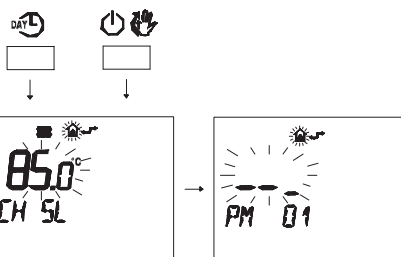

Fig. 8.19
- Press buttons **DAY** and **POWER** at the same time to enter transparent programming (Fig. 8.19).